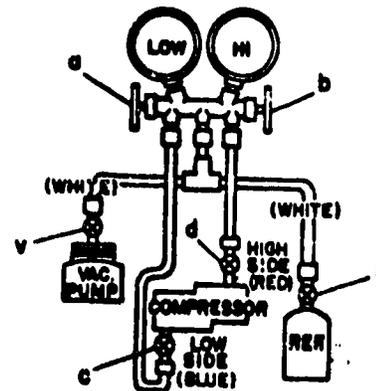

Fig 3-8.
**(If system is running) (refer to fig 3-8).**